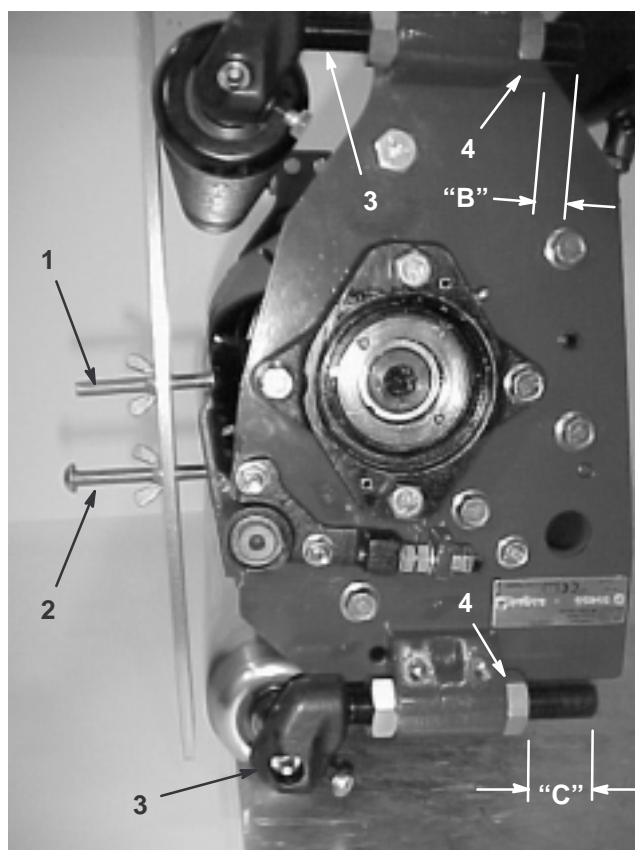

Figure 8
3. Set the front height-of-cut rod height, "B," using the dimension given in **Table 1**. This measurement is between the top surface of the height-of-cut rod and top cone nut (Fig. 8).
4. Set the rear support casting in either the top or bottom location as indicated in **Table 1**. Set the rear height-of-cut rod height **.100\" (3 mm)** less than the dimension given in **Table 1** which will create a gap between the rear roller and the gauge bar (Fig. 8).
Note: Place gauge bar across front and rear rollers. The first screw head should fit snugly over edge of bedknife and the end of second screw should contact bottom of bedknife (Fig. 8). If there is a gap between the front roller and the gauge bar or you can not put the gauge bar on, adjust the front roller until: (1) first (height-of-cut) screw fits snugly over bedknife, (2) second screw just contacts bedknife, and (3) gauge bar touches front roller. Verify front roller (attitude) at each end of the bedknife.